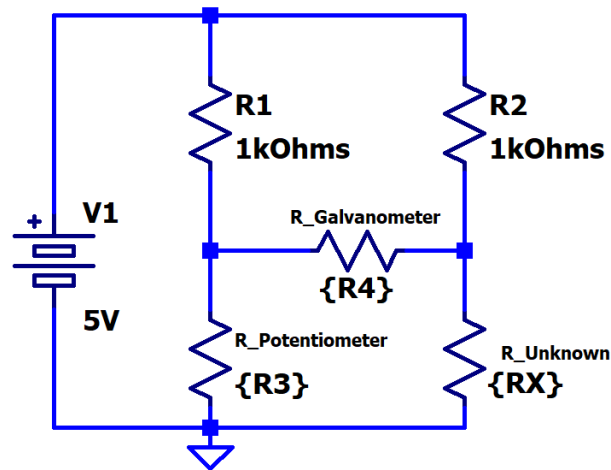

Fig 1. Circuit Diagram
- The minimal current can be measured by the current meter and internal resistance of the current meter can play an important role for measurement accuracy. Using the following values for the components given in Figure 1, perform PSPICE simulation to obtain the resistance of R3 given current and resistance of R4 and complete **Table 1**.
3. Assuming the sensitivity of current meter is 10uA, using the circuit shown in Figure 1, design your own circuit to measure on resistor with resistance around 1kOhms as accurate as possible. In your design, provide a list of selected values for every single component and explain why you want to choose those values. Please take the internal resistance of current meter and the power rating of resistors into account in your design.